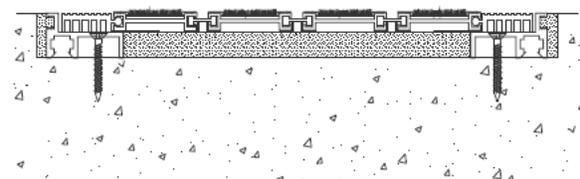

Figure 10
STEP 18. After the mat has relaxed, place the mat into its installed position in the frame (see Figure 10). Ensure that the mat is centered in the frame and that it is level, plumb, flush, flat and properly oriented. If the mat is provided in sections, place each mat section into its installed position, splicing mating sections of the mat together. Ensure that the mat sections are level, plumb, flush, flat, properly oriented and properly aligned and that each mat section is in the position established for it and illustrated in the details. The mat sections are assigned a letter designation, which is marked on the mat sections, to ensure proper placement.